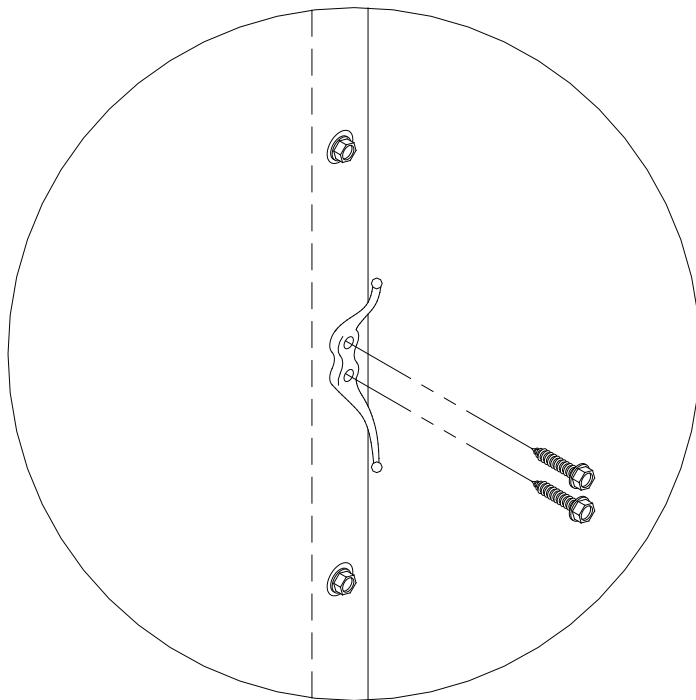

FIGURE 4
2. Secure cleat into position using the supplied screws. (See Figure 4)